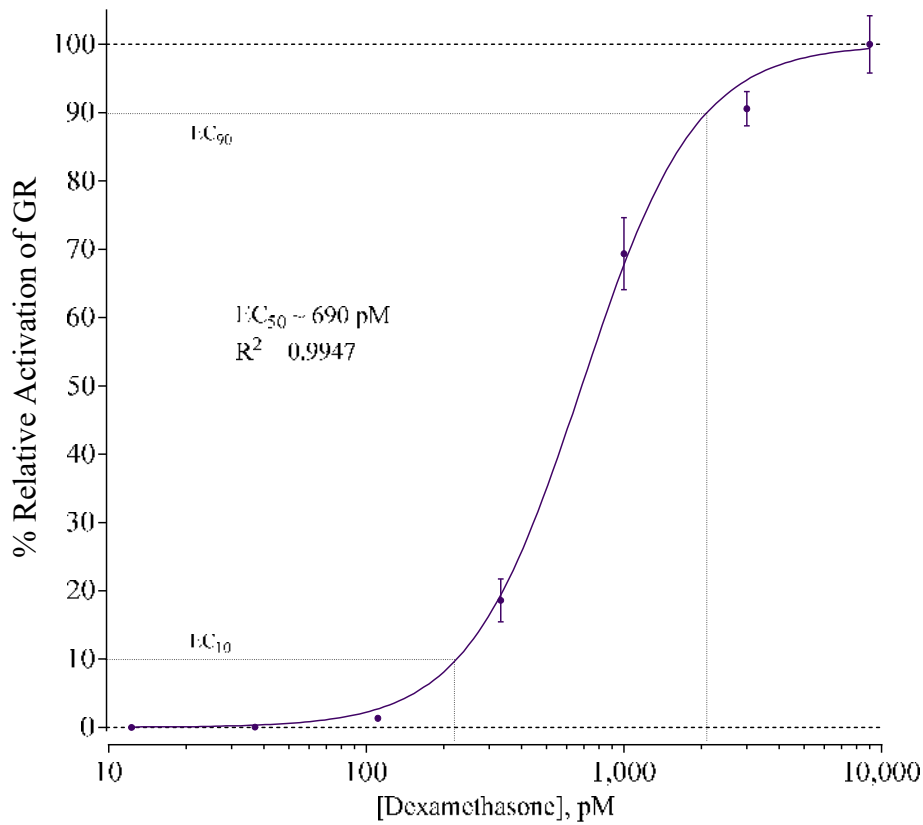

Figure 2. Generating a Standard Curve of GR activity.
a.) Prepare 2x-concentrated Treatment Media for the Dex Standard Curve. This assay kit includes a 2.25 µM stock solution of Dexamethasone (Dex), a potent agonist of GR. Use a portion of this stock to generate a Dex Standard Curve, which will then be used to determine the Dex Bioequivalent (Dex-BEq) activities of all test samples. As depicted in **APPENDIX 1**, begin by using DMSO to generate intermediate stocks that are 250x-concentrated relative to each final assay concentration. Next, perform a 125-fold dilution of these intermediate stocks by transferring a portion of each into CSM, thereby generating **2x-concentrated** Treatment Media, to be used in *Step 10*. As depicted in **APPENDIX 1**, the following 7-point treatment series (in terms of *final* assay concentrations), prepared in serial 3-fold decrements, is recommended for use in generating the Standard Curve: 9,000, 3,000, 1,000, 333, 111, 37.0, and 12.3 pM Dex. Always include a ‘vehicle only’ control, which will be 0.4% DMSO. A representative plot of a typical Dex Standard Curve is depicted in **Figure 2**.
19.) Data analyses. Many regulatory agencies have adopted acceptance criteria for functional bioassays based on units of *Percent Relative Activation* of the receptor. As an example, the representative Dex Standard Curve depicted in **Figure 2** is constructed in terms of those units. **APPENDIX 3** provides guidance for the mathematical manipulation of raw RLU measurements to achieve final calculations of '% Relative Activation of GR'. That series of calculations may be applied to all Control and Test samples.